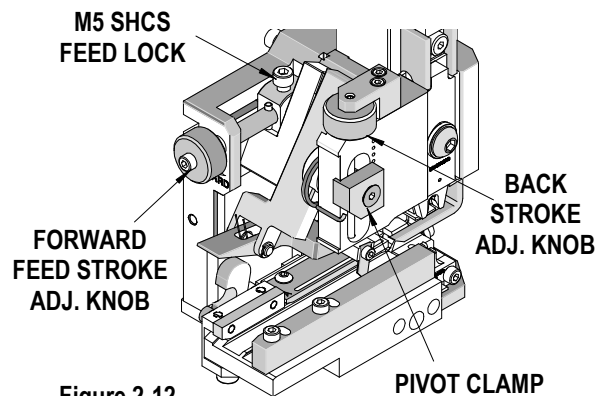

Figure 2-12
4. Turn the forward feed adjusting knob to position the terminal. To decrease the feed position, turn the forward feed adjusting knob clockwise. To increase the feed position turn the forward feed adjusting knob counterclockwise. See Figure 2-12.
3. To achieve the correct back stroke location, adjust the position of the hinge bushing. First, use a 3mm hex wrench to loosen the pivot clamp. Turning the back stroke adjustment knob (which is located above the hinge bushing) clockwise (CW) will raise the hinge bushing and will increase the feed back stroke. Turning the knob counter clockwise (CCW) will lower the hinge bushing and will decrease the feed back stroke. When adjustment is complete, tighten the pivot clamp securely. See Figure 2-12.